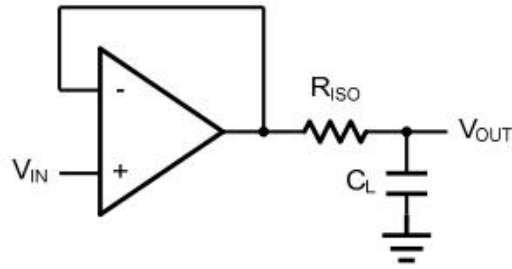

Figure 2. Indirectly Driving a Capacitive Load Using Isolation Resistor
The LMV602 is optimized for bandwidth and speed, not for driving capacitive loads. Output capacitance will create a pole in the amplifier's feedback path, leading to excessive peaking and potential oscillation. If dealing with load capacitance is a requirement of the application, the two strategies to consider are (1) using a small resistor in series with the amplifier's output and the load capacitance and (2) reducing the bandwidth of the amplifier's feedback loop by increasing the overall noise gain. Figure 2. shows a unity gain follower using the series resistor strategy. The resistor isolates the output from the capacitance and, more importantly, creates a zero in the feedback path that compensates for the pole created by the output capacitance.
The circuit in Figure 3 is an improvement to the one in Figure 2.  $R_F$  provides the DC accuracy by feed-forward the  $V_{IN}$  to  $R_L$ .  $C_F$  and  $R_{ISO}$  serve to counteract the loss of phase margin by feeding the high frequency component of the output signal back to the amplifier's inverting input, thereby preserving the phase margin in the overall feedback loop. Capacitive drive can be increased by increasing the value of  $C_F$ . This in turn will slow down the pulse response.